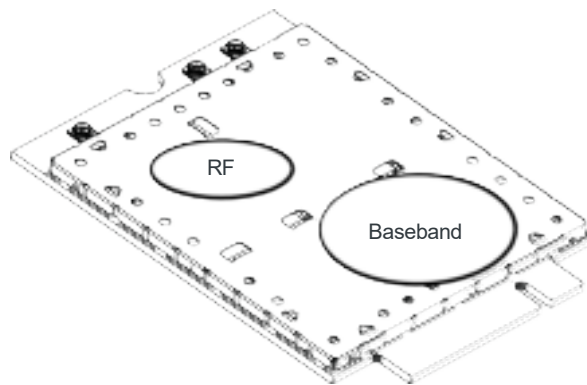

Figure 6-1: Shield Locations (Top View)
- Monitor temperature at all shield locations. Attach thermocouples to the areas indicated in Figure 6-1 on page 55 (RF, Baseband).